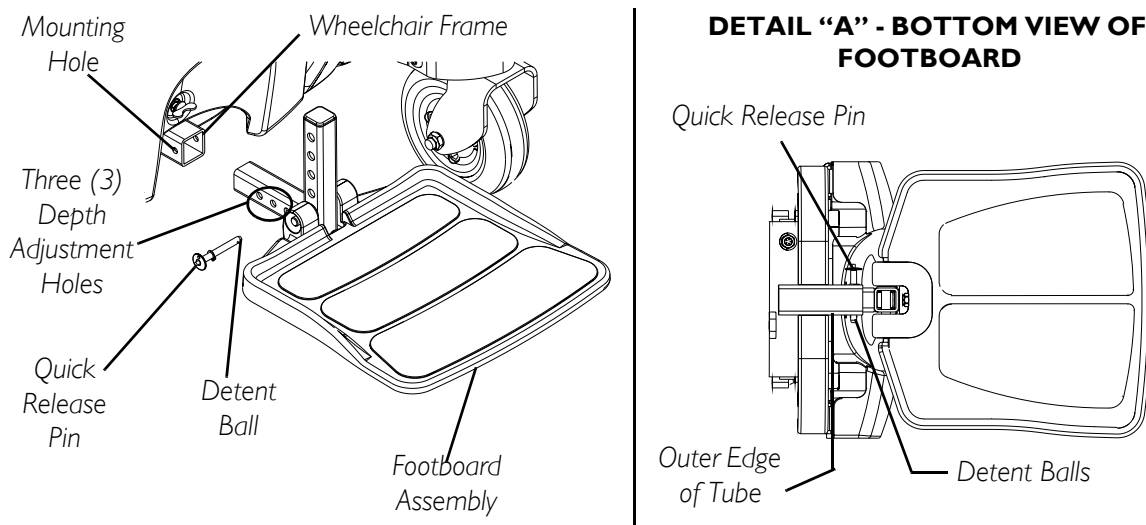

FIGURE 8.3 - ADJUSTING THE FOOTBOARD ASSEMBLY - DEPTH
2. Install the quick release pin by depressing the button while sliding the pin in. Make sure the detent balls are engaged with the outer edge of the tube (Detail "A" of FIGURE 8.3).
NOTE: For this procedure, refer to FIGURE 8.3.
2. Adjust footboard to one (1) of three (3) mounting positions.
3. Install the quick release pin. Make sure the detent balls are engaged with the outer edge of the tube (Detail "A" of FIGURE 8.3).